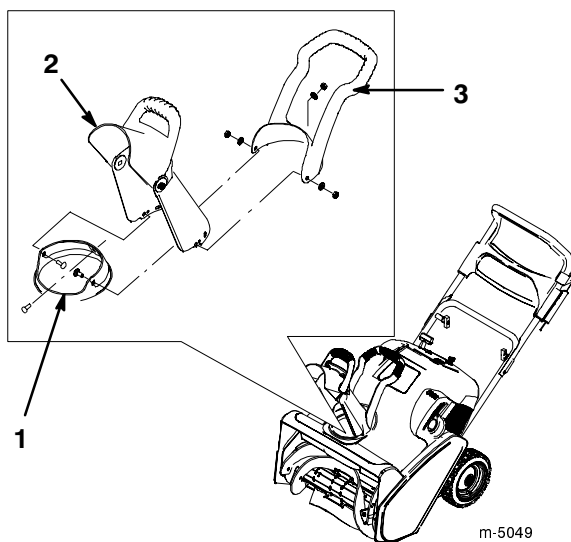

Figure 5
1. Place the discharge chute over the chute ring, and align the hole in the back of the discharge chute with the center hole in the chute ring (Fig. 5).
2. Insert a screw from the inside of the discharge chute until the screw just passes through the hole in the discharge chute (Fig. 5).
3. Insert the chute handle over the discharge chute, align the center hole in the chute handle with the screw, and fully insert the screw through the center hole in the chute handle (Fig. 5).